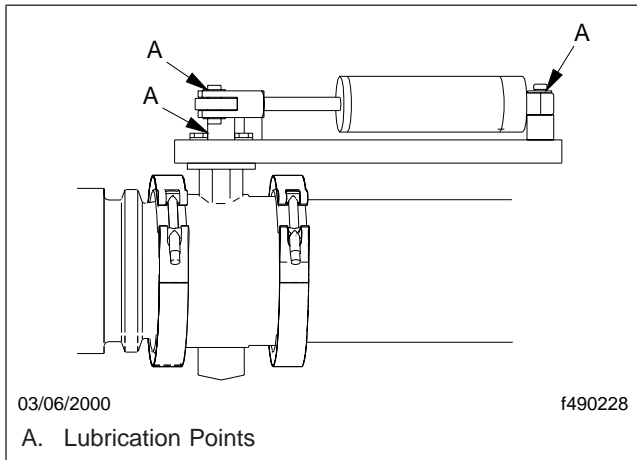

Fig. 7.10, Pacbrake Exhaust Brake and Air Cylinder
1. With the engine shut down, use any oil-free or nonpetroleum-based high-heat lubricant, and spray or coat a sufficient amount on the restrictor valve shaft and the attaching locations at each end of the actuation cylinder. See Fig. 7.10.